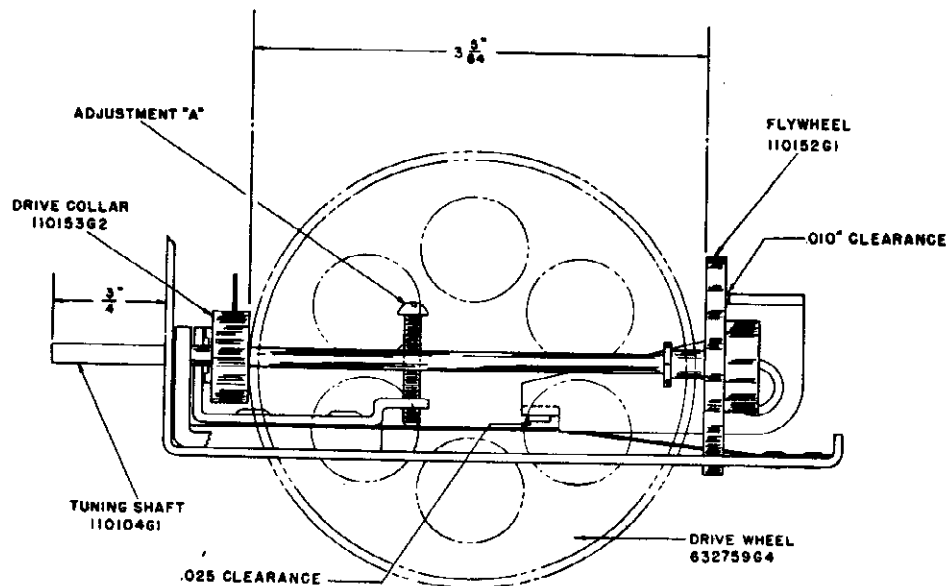
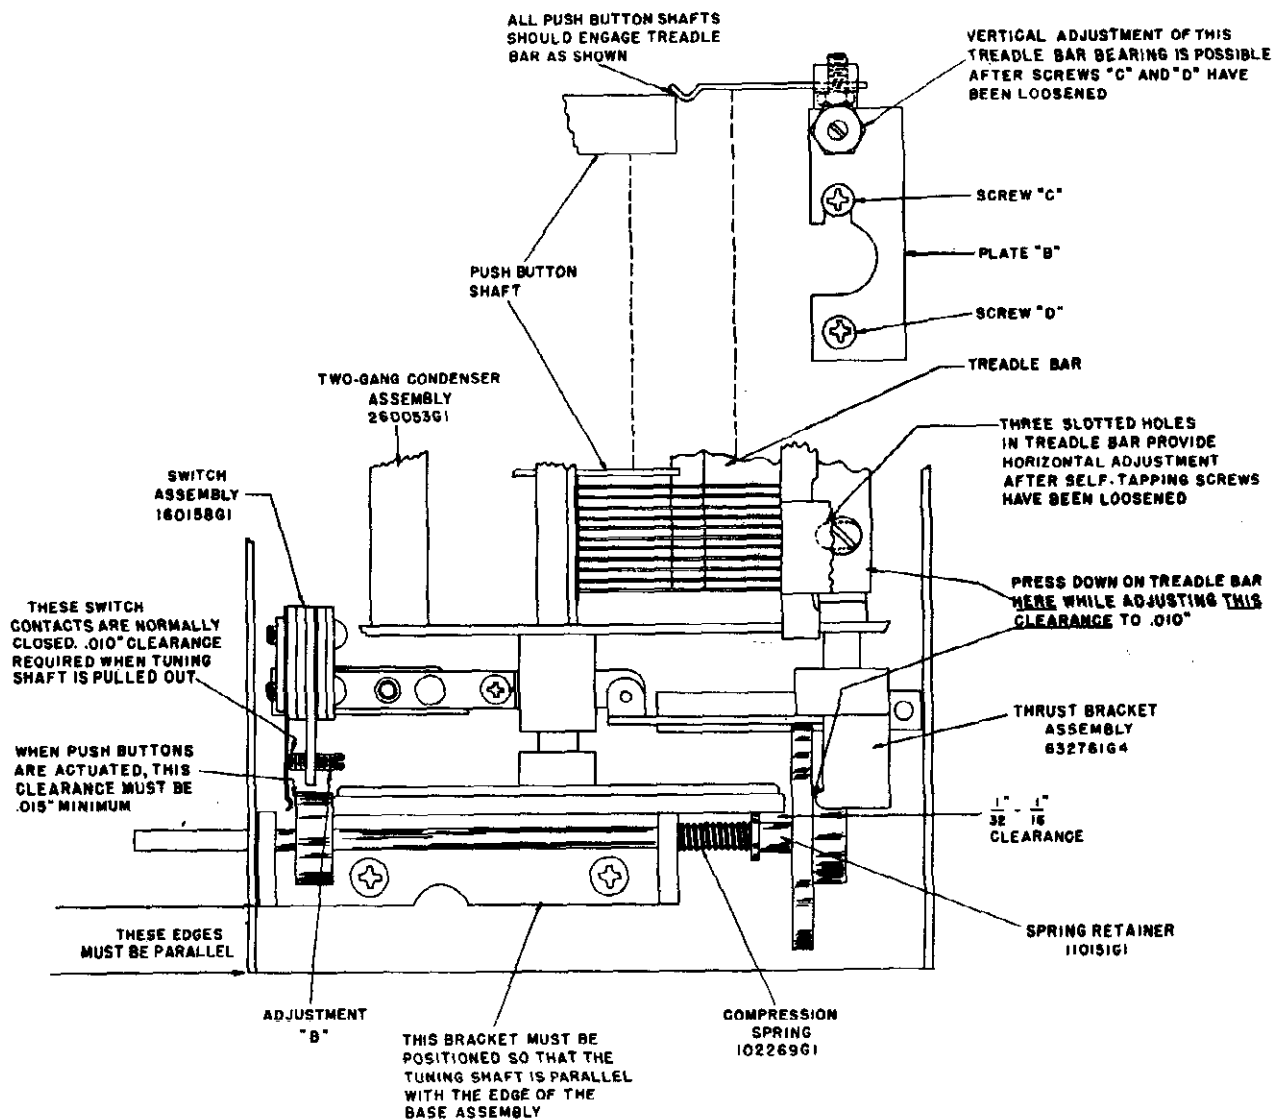

FIGURE 2
FIGURE 3
Whenever any of the mechanical parts in the condenser gang drive assembly require replacement due to rough handling or for any other reason, it is extremely important that clearances and adjustments shown on Figures 2 and 3 are affected; otherwise the tuning mechanism will be sluggish or it may slip during operation.
1. Assemble the Tuning Shaft, Drive Collar, Compression Spring, Spring Retainer and Flywheel in the manner shown on Figure 3. The Tuning Shaft must extend $\frac{3}{4}$ " from the front of the assembly and that the spacing between the rear of the Drive Collar and the front of the Flywheel must be $3\text{-}\frac{5}{64}$ " as specified on Figure 2. Any excess length in the Tuning Shaft may extend beyond the rear of the Flywheel.
3. While pressing down on the Treadle Bar at the location shown on Figure 3, adjust the Thrust Bracket until the clearance between the rear of the Flywheel and the projection on the Thrust Bracket is $.010$ " as shown on the diagram. To make this adjustment, loosen the two No. 6 Allen set screws (use No. 6 Allen Wrench—Magnavox Part No. 800044G2) in the hub of Thrust Bracket and rotate the bracket until the specified clearance is obtained when the push buttons are NOT actuated. Tighten the two screws securely when the adjustment is completed. Press each push button and check that the Drive Collar is pushed away from the rubber-tired Drive Wheel.
4. Next, adjust the clearance in the muting switch contacts by turning the Phillips-head screw designated Adjustment "A" on Figure 2, until the specified clearance of $.025$ " is obtained (when the push but-
2. The distance between the rubber-tired Drive Wheel and the smaller diameter section of the Spring Retainer must be $1/32$ " to $1/16$ ". This adjustment is effected by loosening the two No. 6 Allen set screws in the Drive Wheel hub and sliding the wheel on its shaft until the required clearance is obtained. When the adjustment is completed, tighten the two screws in the hub of the Drive Wheel. See Figure 3.
5. While pressing any one of the push buttons in as far as possible, turn the screw designated Adjustment "B" (Figure 3) until a minimum clearance of $.015$ " is obtained between the front surface of the Drive Collar and the switch spring directly in front of it. This setting should also cause a minimum clearance of $.010$ " between the switch contacts actuated
This can usually be accomplished by loosening the two screws designated "C" and "D" on Figure 3, and moving plate "B" in the direction required to correct this condition.